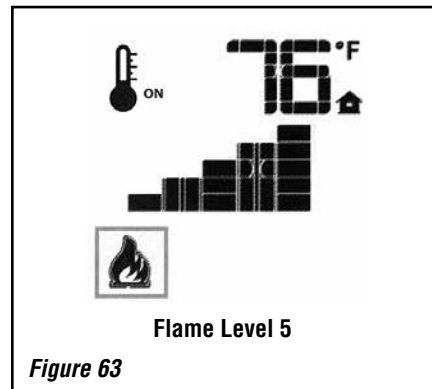

Figure 63
The system has six (6) flame levels. See **Figure 63 (next page)** for an example. With the system on, and the flame level at the maximum in the appliance, pressing the DOWN Arrow Key once will reduce the flame height by one step until the flame is turned off.